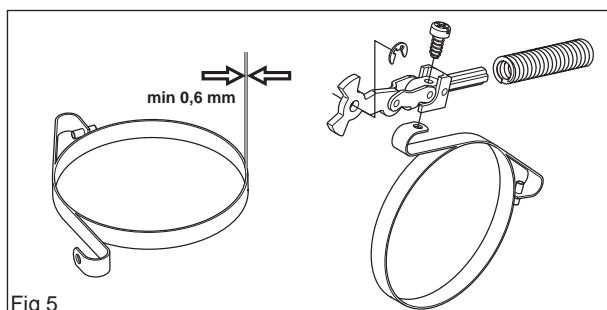

Fig 5
- Measure the thickness of the chain brake band. It must not be less than 0.6 mm at any point. (see figure 5)
Bolt the elbow joint to the brake band (see figure 5) and tighten to a torque of 1–1.5 Nm.